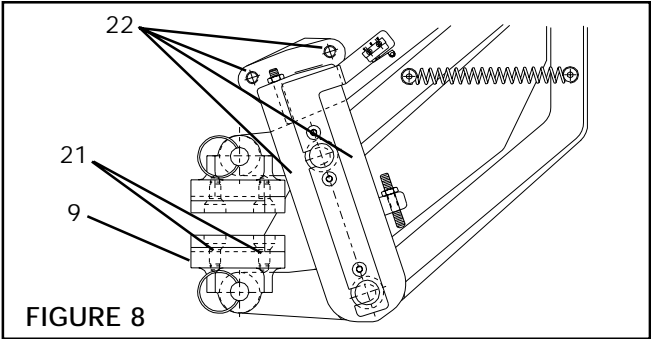

FIGURE 8
3. Loosen Socket Head Cap Screws (Items 22) and remove Brake assemblies from the Upper and Lower Mounting Brackets (Item 4) (See Fig. 8).